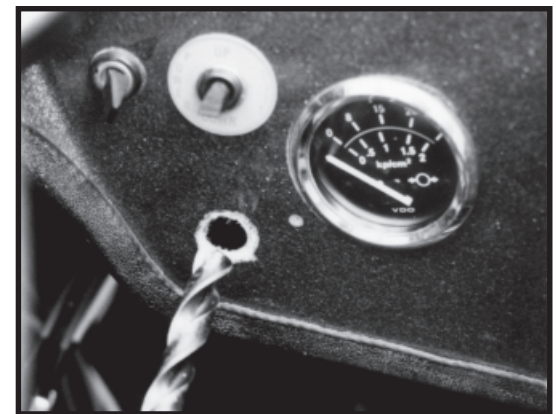

Fig. 13
Step 11: Find a good location for the up-down toggle switch. This toggle switch should be located for easy access while operating the throttle. Use a 1/2 inch drill to drill a hole at the chosen location taking care not to damage wires or brackets (Fig. 13)